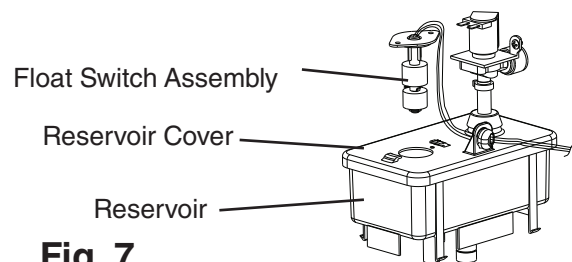

Fig. 7
- 10) In bad or severe water conditions, clean the float switch assembly as described below. See Fig. 7. Otherwise, continue to step 11.